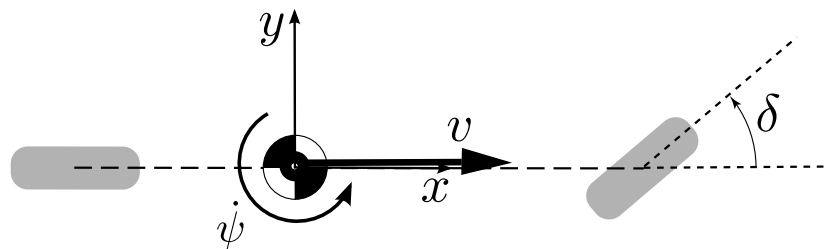

Figure 5: Bicycle model defining steering angle δ (drawn in positive direction after "ISO 8855" coordinate system $\Rightarrow z$ up) and speed v .
- DE8.3.1 A Data Logger (DL) according to EV4.6 and T14.2, described in the additionally published document "Data Logger Specification", will be mounted to the vehicle.
- DE8.3.8 Beside Remote Emergency System (RES) messages, see DE8.4.9, the messages defined in Table 4 must be provided to the DL with a cycle time of 100 ms each. Steering angle δ and vehicle coordinate system is defined in figure 5.